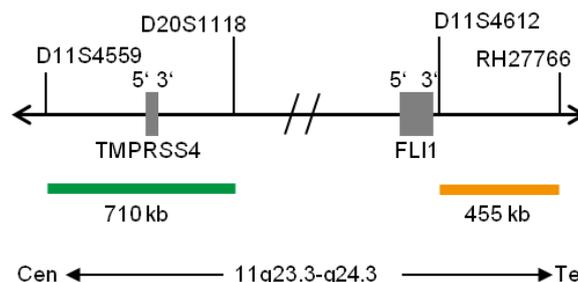

Fig. 1: SPEC 11q Probe map (not to scale)
- ZyGreen (excitation 503 nm/emission 528 nm) labeled polynucleotides (~10 ng/μl), which target sequences mapping in the minimal gained region (MGR) at 11q23.3* (chr11:117,574,074-118,284,029) (see Fig. 1).
- ZyOrange (excitation 547 nm/emission 572 nm) labeled polynucleotides (~4.5 ng/μl), which target sequences mapping in the minimal loss region (MLR) at 11q24.3* (chr11:128,707,454-129,161,227) (see Fig. 1).
- ZyBlue (excitation 418 nm/emission 467 nm) labeled polynucleotides (~12 ng/μl), which target sequences mapping in 11p11.11-q11 specific for the alpha satellite centromeric region D11Z1 of chromosome 11 (see Fig. 1).